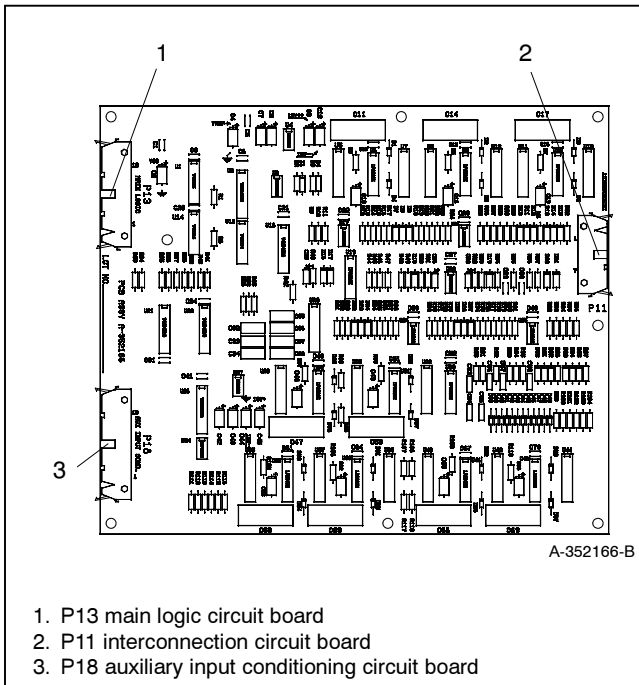

Figure 4-6 Input Conditioning Circuit Board A-352166
- a. Input conditioning circuit board A-352166. See Figure 4-6.